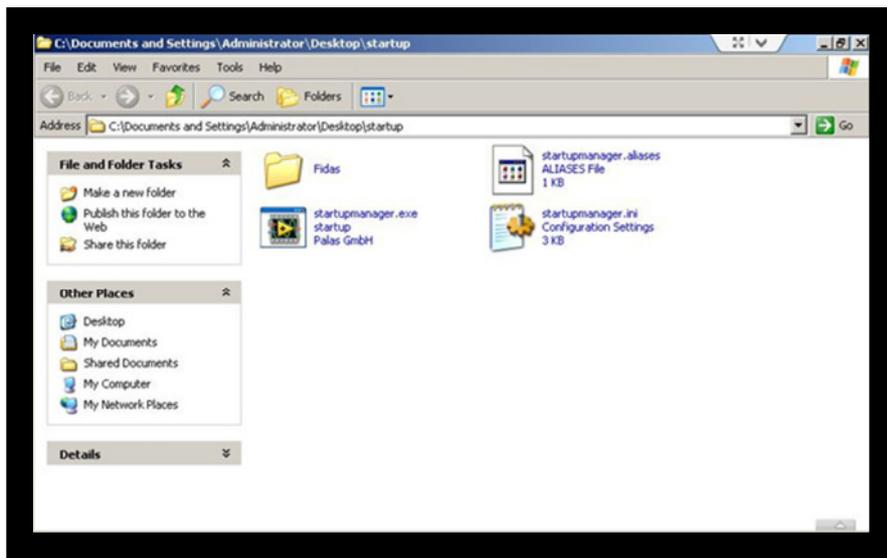

Figure 21: Startup folder
- You are now in the “startup” folder; please click the FIDAS folder (see Figure 21).